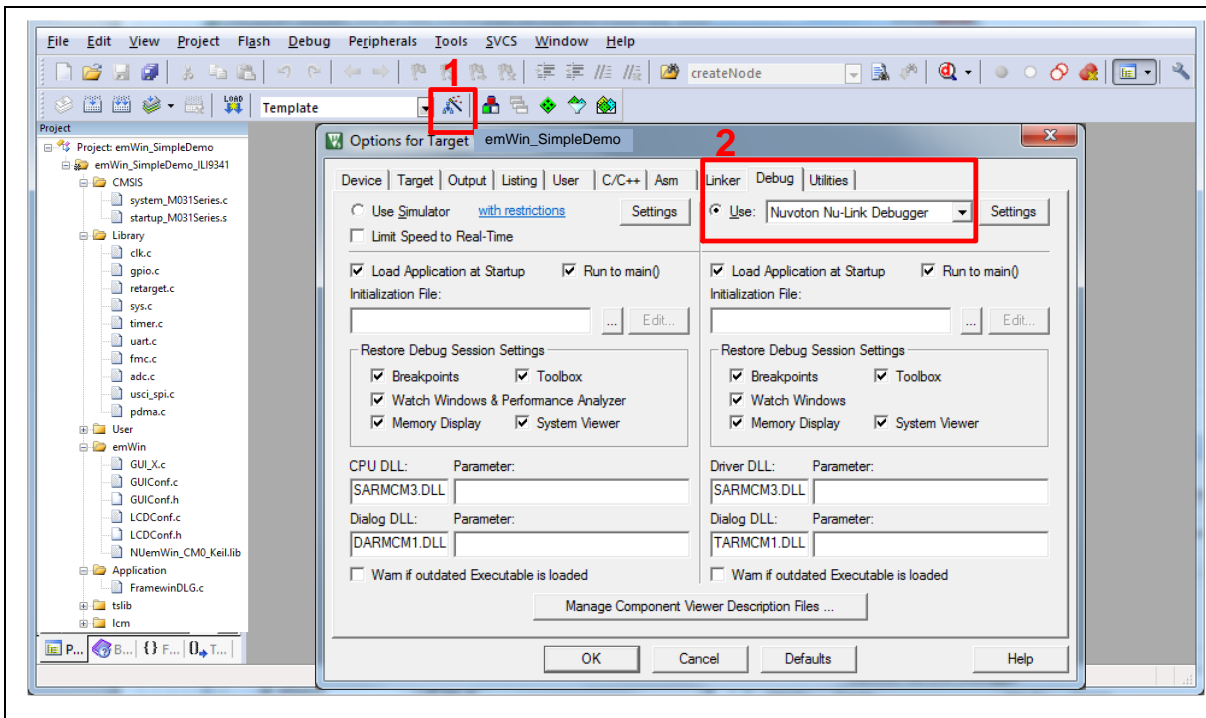
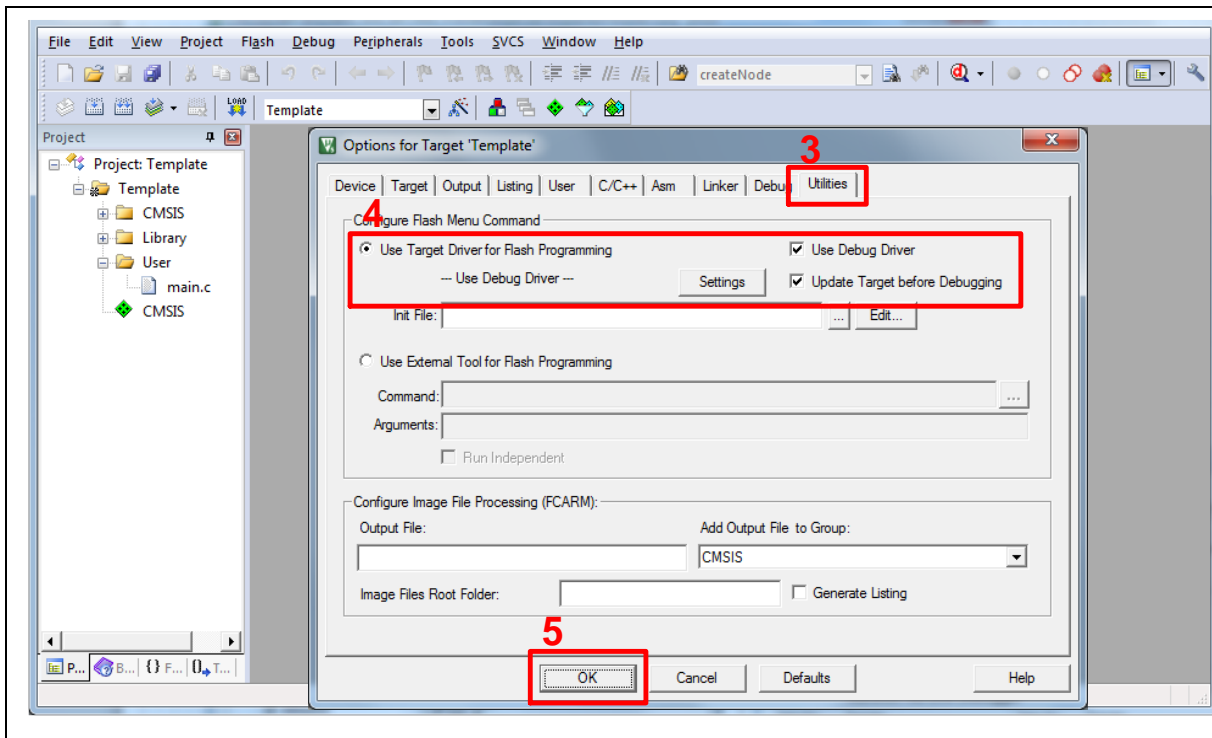

Figure 4-10 Debugger Setting in Options Window
Figure 4-11 Programming Setting in Options Window
- Make sure the debugger is “Nuvoton Nu-Link Debugger” as shown in Figure 4-10 and Figure 4-11.
**Note:** If the dropdown menu in Figure 4-10 does not contain “Nuvoton Nu-Link Debugger” item, please rework section 4.2.